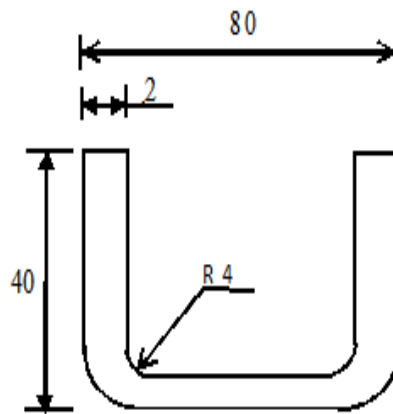

Fig.2
- Q.10 Calculate the blank Length to make the part as shown in figure 2. Also determine the bending force 13